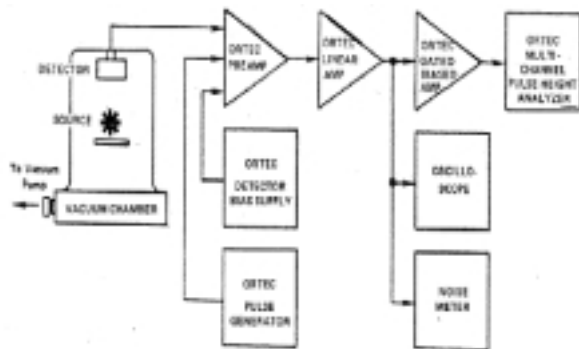

Fig. 14. System for High-Resolution Alpha-Particle Spectroscopy.
**HIGH-RESOLUTION ALPHA-PARTICLE SPECTROSCOPY SYSTEM** The block diagram of a high-resolution spectroscopy system for measuring natural alpha particle radiation is shown in Fig. 14. Since natural alpha radiation occurs only above several MeV, an ORTEC 444 Biased Amplifier is used to suppress the unused portion of the spectrum; the same result can be obtained by using digital suppression on the MCA in many cases. Alpha-particle resolution is obtained in the following manner: